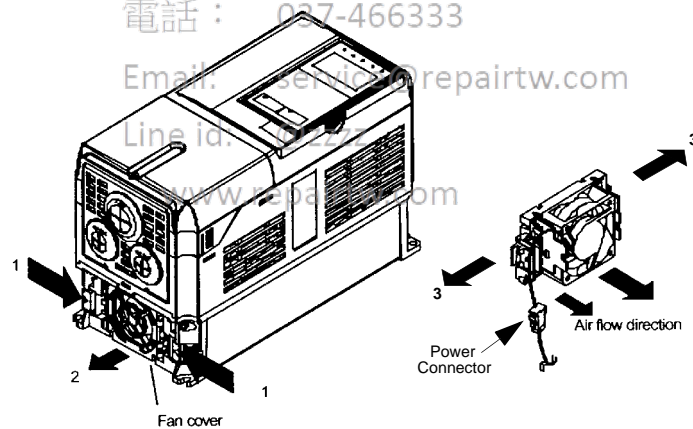

Fig 7.2 Cooling Fan Replacement Procedure
3. Pull out the cable connected to the fan from the fan cover and disconnect the power connector. See Figure 7.2.